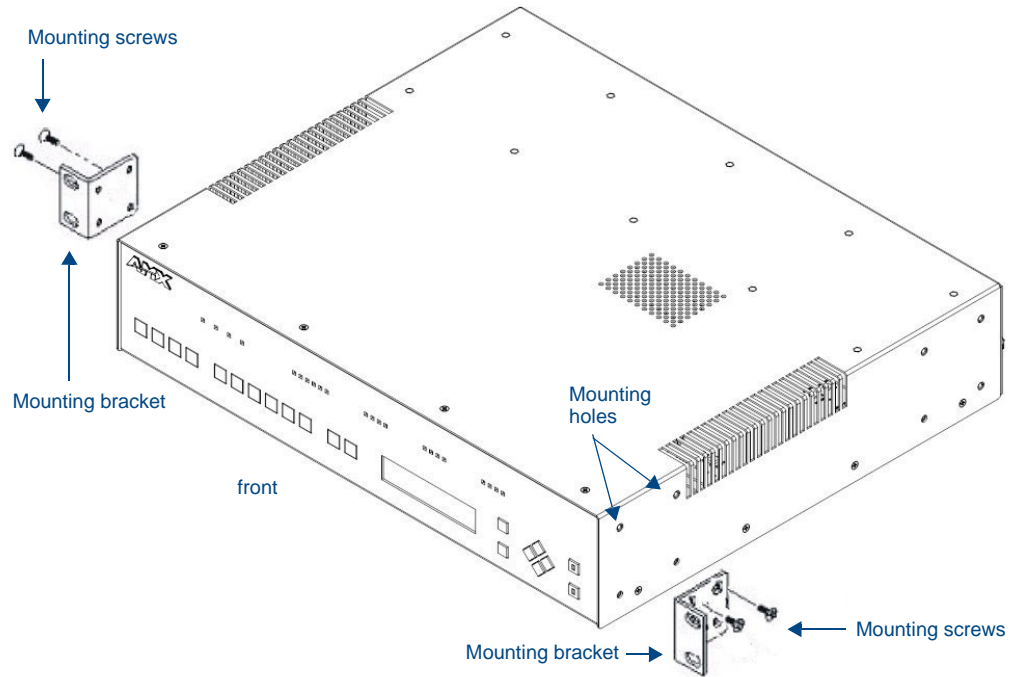

FIG. 2 Rack mounting the DVX-2100HD
2. Position and install the mounting brackets, as shown in FIG. 2, using the supplied mounting screws.